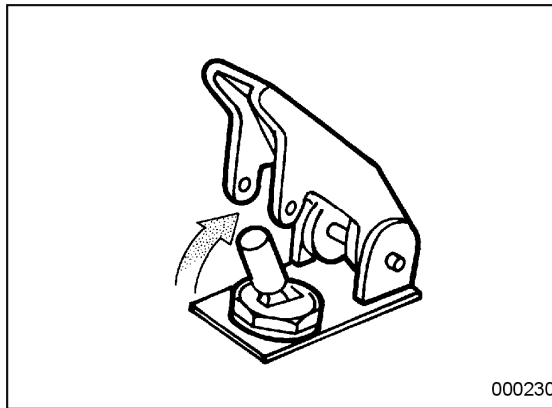

Figure 29: Switch for safety systems override
3. Momentarily move spring-loaded toggle switch lever in direction of arrow (see figure 29).
Again momentarily move toggle switch lever in direction of arrow (see figure 29).